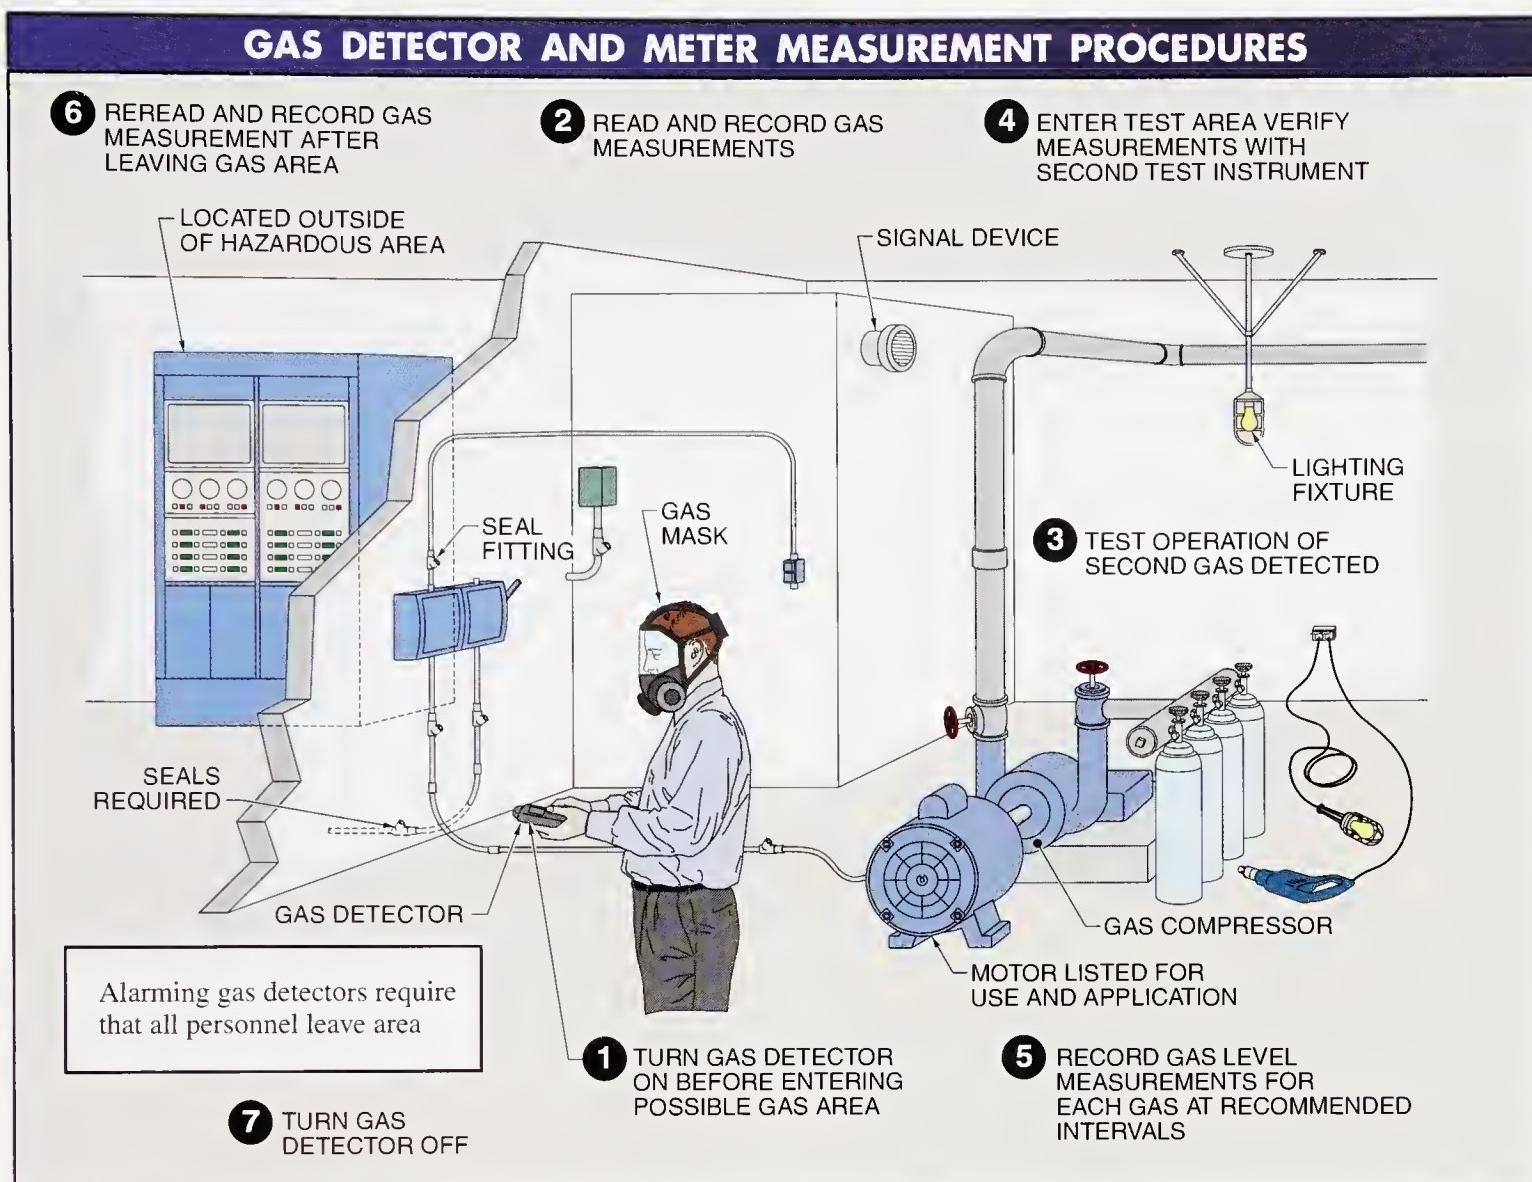

Figure 9-14. Electricians performing tasks in hazardous areas or confined spaces of a facility are required to use gas detectors.
- carbon monoxide (CO)
Gas detectors are available as single gas or multiple gas detectors. Single gas detectors typically detect the more common gases that cause problems, such as carbon monoxide (CO). Today, gas detectors that measure three, four, or five gases are becoming more popular and can be found for use with uncommon gases. See Figure 9-14.